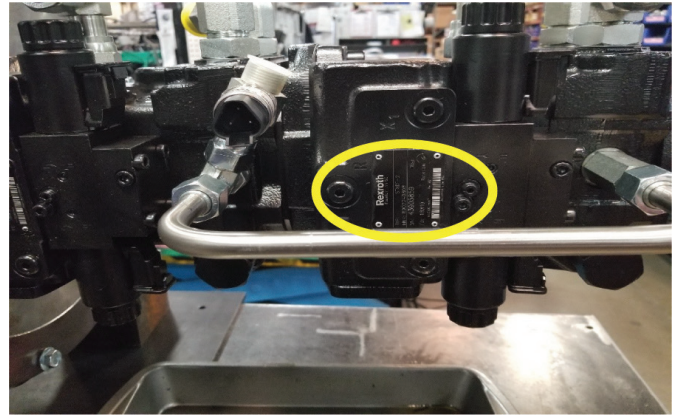

Figure 3. Pump Serial Number Location
2. **Pump Serial Number** — located on sticker on pump (Figure 3). Lower number is the serial number.